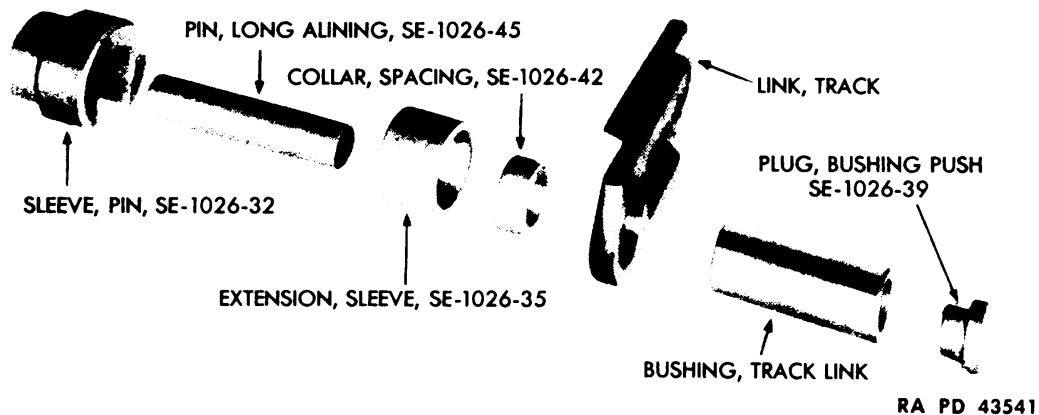

Figure 167 – Tools for Pushing Bushing into First Link Arrangement
- (2) **ASSEMBLE PINS AND BUSHINGS IN BOTH LINKS IN A SINGLE LINK UNIT (figs. 167 and 168).**